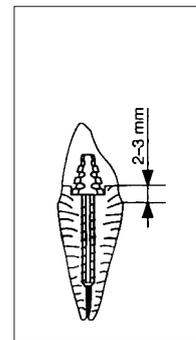

Fig. 6
- For metal-ceramic crowns a preparation line of 2-3 mm has to be observed (Fig 6)